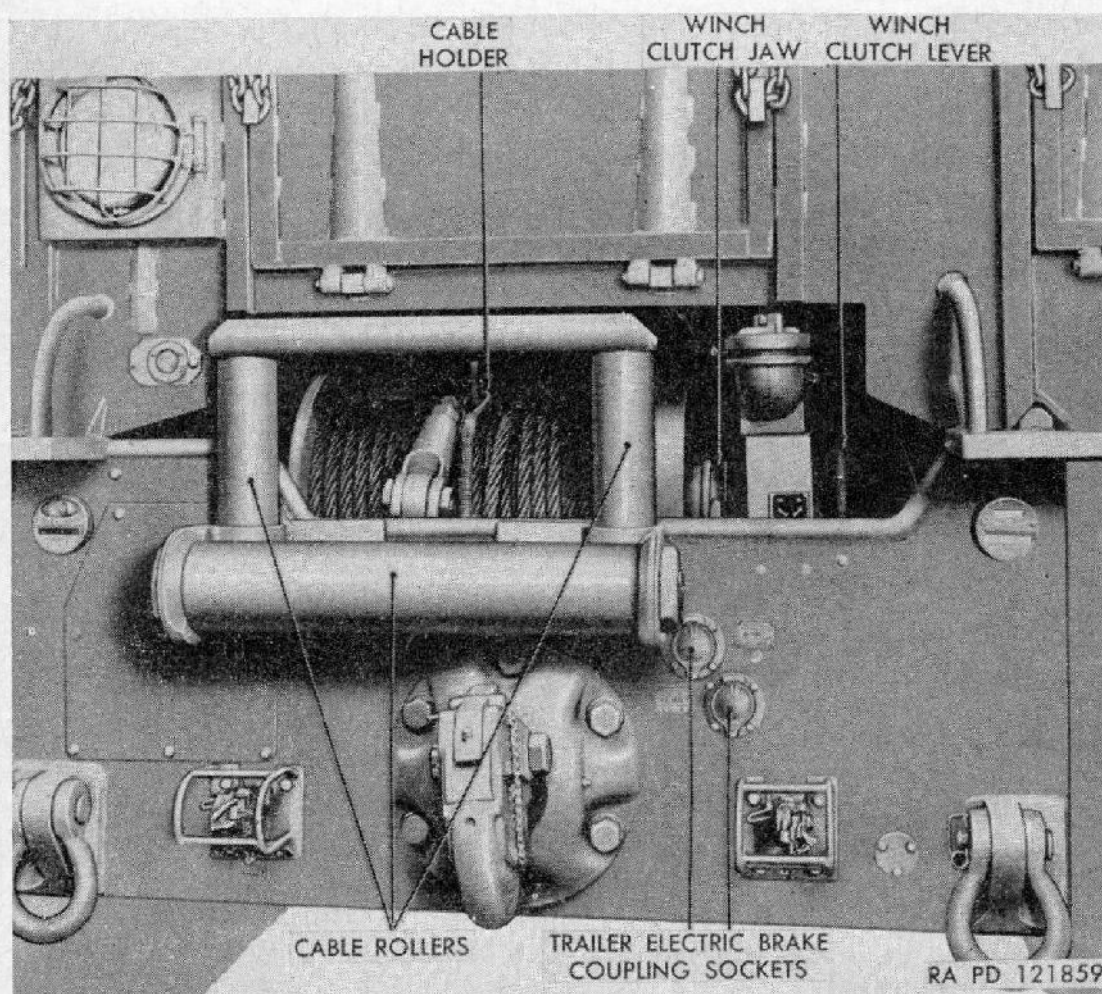

Figure 10. Rear view details of tractor.
b. Operation. Disengage master clutch, lift lever lock, and shift the power take-off high-low range shifter lever (fig. 6) forward for high speed range or back for low speed range. Then shift the power take-off lever forward (fig. 6). Have another man engage the sliding jaw clutch or winch with the jaws on the drum by operating lever at rear of tractor to the right of the winch (fig. 10). Engage master clutch and winch will operate.